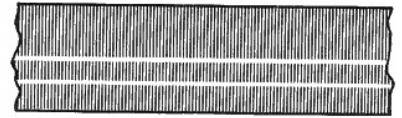

Fig. 3.6. Track measurement, four-track erase head.
Make sure that no parts of the adjacent tracks are erased, see fig. 3.6. If necessary, adjust the height of the erase head by means of screws (K) and (L), see fig. 2.7, and repeat the above check.
Insert a full-track prerecorded tape, and record in mono on track 3 (channel R) a 1.000 Hz signal at level well above normal. Cut the tape and dip it into the Magna See solution. Check that the prerecorded track is in the centre of the erased area, see fig. 3.6. Adjust the vertical position of the erase head if necessary.